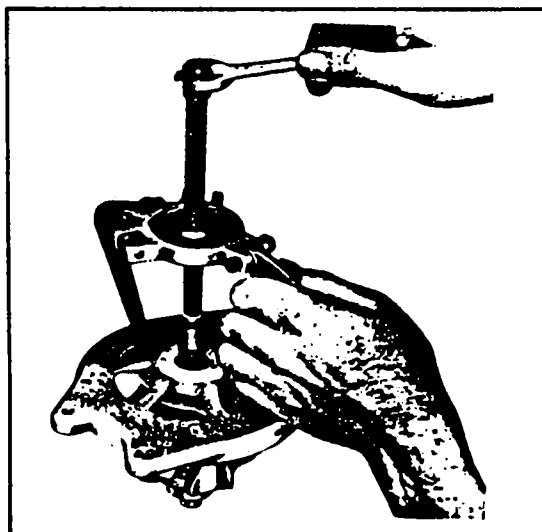
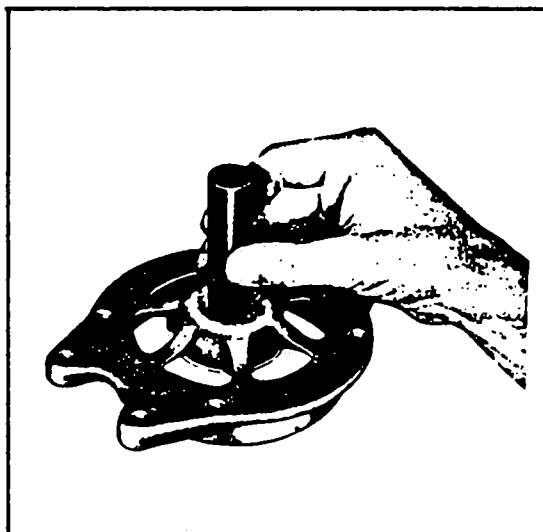

Figure 11-24. Removal of Drive End Head
Figure 11-25. Removal of End Head Bearing
f. To remove the drive end head from the rotor shaft, use a puller that grips on the bearing retainer plate as shown in Figure 11-24. Do not attempt to remove by supporting the end head and pressing on the shaft, as this may result in distortion of the end head or stripping of the retainer plate screws. Remove the three retainer plate screws and press the bearing out of the end head. (Refer to Figure 11-25.)